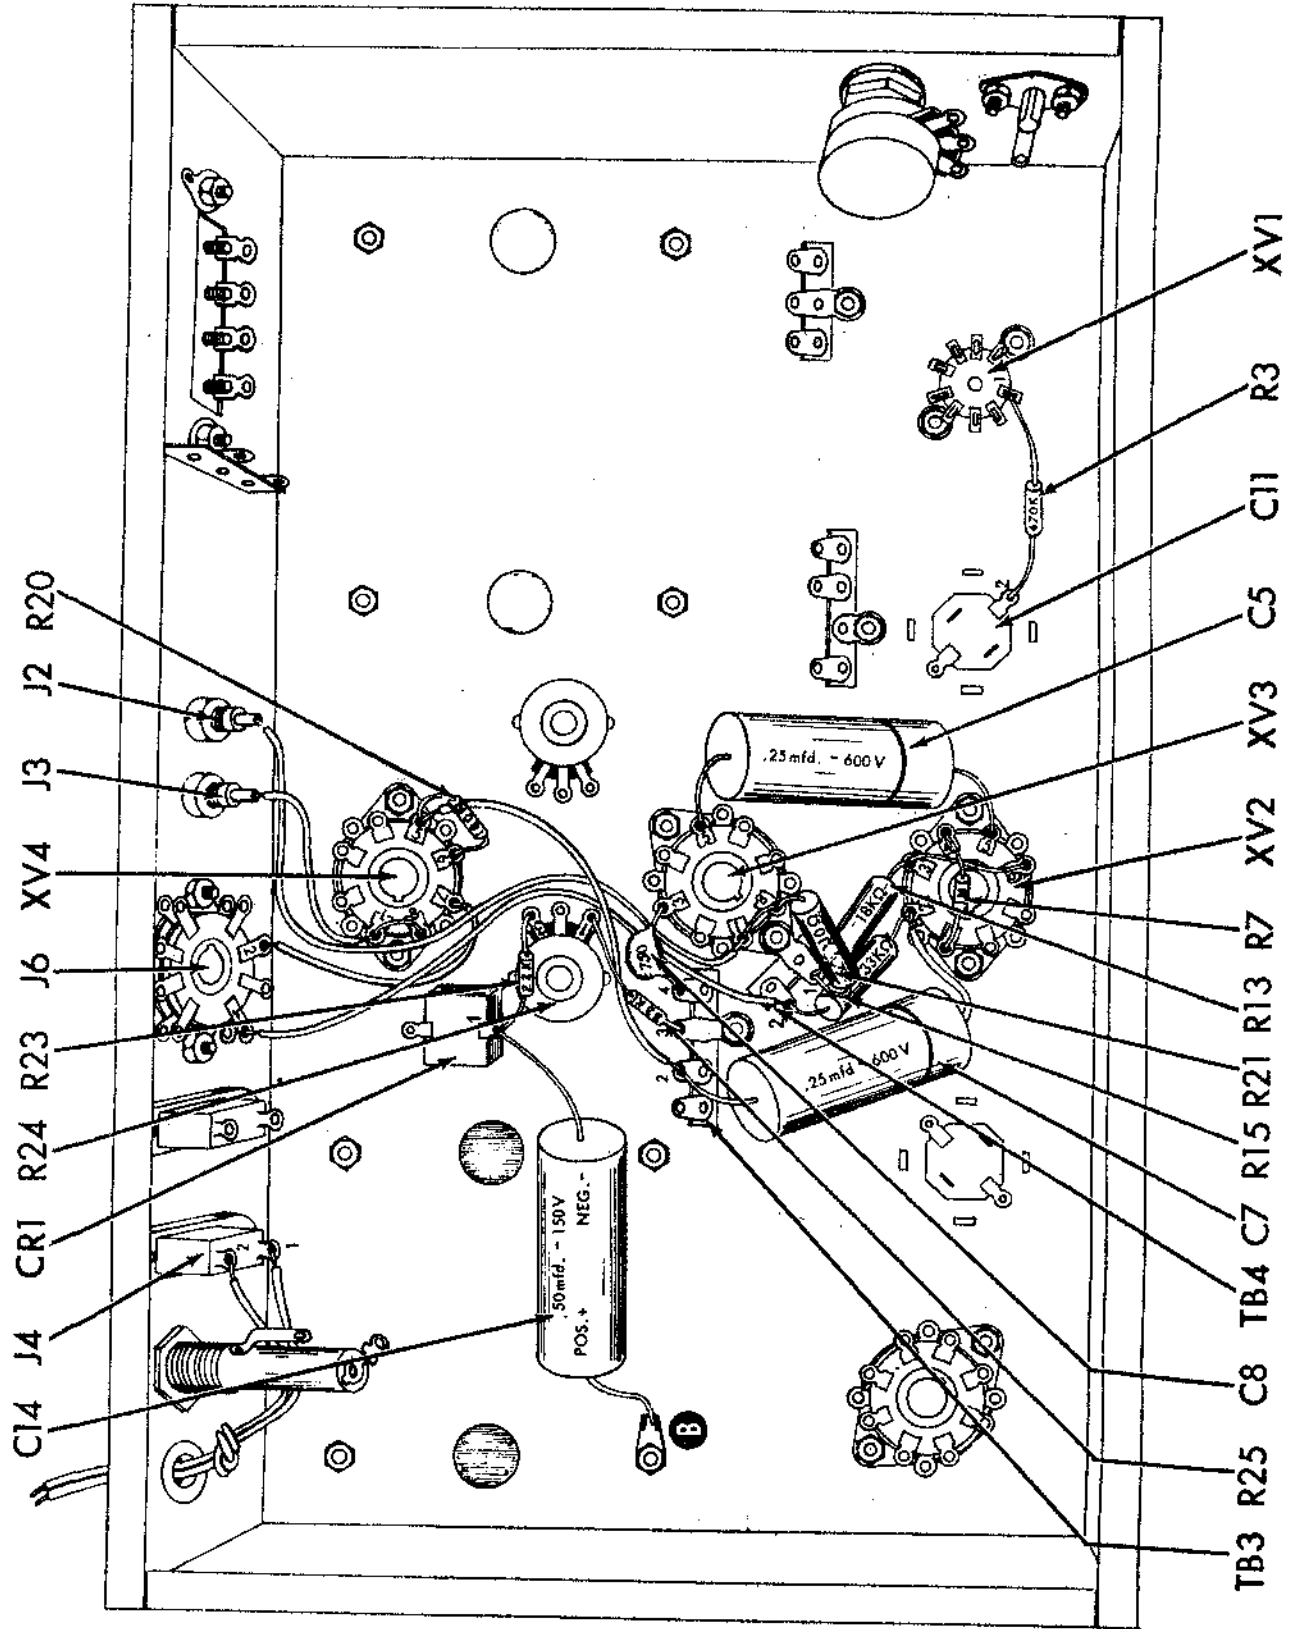

Fig. 5
1. ( ) Fig. 5. Connect a 470K $\Omega$  (yellow, violet, yellow, gold) 5% resistor, R3, from XV1-1 (S) to C11-2 (S). Cut leads to 1". Use 3/4" spaghetti on each lead.
2. ( ) Fig. 5. Connect a .25mf, 600V (red, green, yellow, white, blue) molded capacitor, C5, from XV3-5 (S) to XV2-5 (S). Cut leads to 1".
3. ( ) Fig. 5. Connect an 18K $\Omega$  (brown, grey, orange, gold) 5% resistor, R13, from TB4-1 (C) through XV2-3 to XV2-6 (S). Use a 5/8" piece of spaghetti between XV2-3 and XV2-6. Cut the lead going to TB4 to 3/4" and the other lead to 1 1/2".
4. ( ) Fig. 5. Connect a 1 meg (brown, black, green, silver) 10% resistor, R7, from XV2-1 (S) to XV2-4 (S). Cut leads to 1/2".
5. ( ) Fig. 5. Connect a 33K $\Omega$ , 1W (orange, orange, orange, gold) 5% resistor, R15, from XV2-2 (C) to TB4-2 (C). Cut leads to 1 1/4".
6. ( ) Fig. 5. Connect a .25mf, 600V (red, green, yellow white, blue) molded capacitor, C7, from XV2-2 (S) to TB3-2 (C). Cut one lead to 3/4" and the other lead to 1 1/2". Use 1" spaghetti on the longer lead and connect this to XV2-2.
7. ( ) Fig. 5. Connect a 3/4" bare wire from XV3-1 (C) to XV3-8 (C).
8. ( ) Fig. 5. Connect a 10 $\Omega$ , 1% resistor, R21 from XV3-8 (S) to TB4-1 (S).
9. ( ) Fig. 5. Connect a 4 1/2" green lead from TB3-2 (S) to XV4-5 (C).
10. ( ) Fig. 5. Connect a 33K $\Omega$ , 1/2W (orange, orange, orange, silver) 10% resistor, R25, from R24-1 (S) to TB3-3 (S). Cut leads to 3/4".
11. ( ) Fig. 5. Connect a 22K $\Omega$  (red, red, orange, silver) 10% resistor, R23, from R24-3 (S) to CR1-1 (C). Cut leads to 3/4".
12. ( ) Fig. 5. Connect a 50mf, 150V electrolytic capacitor, C14, from CR1-1 (S) to ground lug "B" (S). Cut the lead on the + side to 1 3/4" and connect this to the ground lug. Cut the other lead to 1 3/4" and cover it with a 1 1/2" piece of spaghetti before connecting it to CR1.
13. ( ) Fig. 5. Connect a 750mmf disc capacitor, C8, from TB3-4 (S) to XV3-3 (S).
14. ( ) Fig. 5. Connect a 6" red lead from TB4-2 (S) to J6-4 (S).
15. ( ) Fig. 5. Connect a 7" yellow lead from XV3-1 (S) to J2 (S).
16. ( ) Fig. 5. Connect a 180K $\Omega$  (brown, grey, yellow, gold) 5% resistor, R20, from XV4-6 (S) to XV4-5 (S). Cut leads to 1/2".
17. ( ) Fig. 5. Connect a 3" black lead from XV4-7 (S) to J6-2 (S).
18. ( ) Fig. 5. Connect a 3/4" bare wire from XV4-8 (S) to XV4-1 (C).
19. ( ) Fig. 5. Connect a 2 1/2" black lead from XV4-1 (S) to J3 (S).
20. ( ) Fig. 5. Pass the line cord through the 3/8 grommet at the rear of the chassis. Knot the line cord inside the chassis 2 1/2" from the end. Connect one lead to J4-1 (S) and the other lead to J4-2 (S).